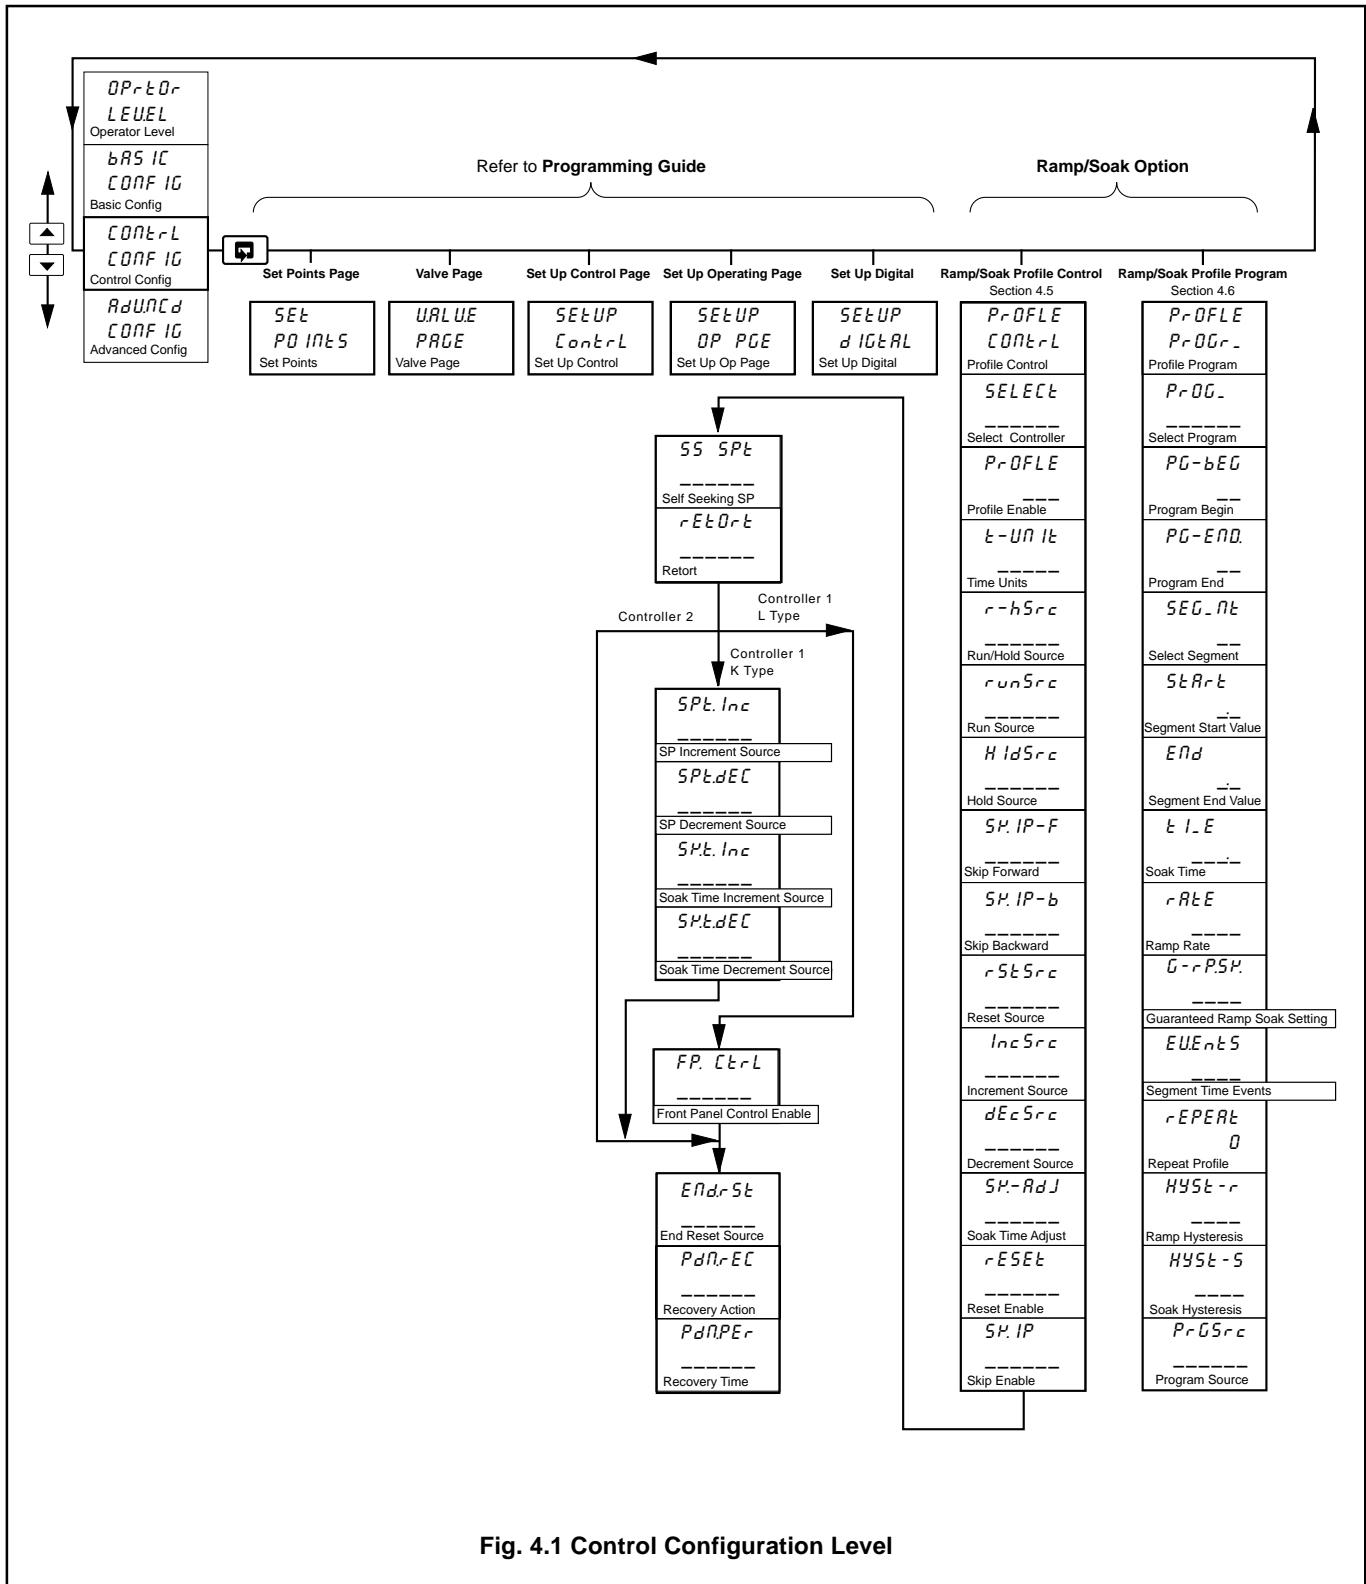

Fig. 4.1 Control Configuration Level
4.1 Control Configuration Level – Fig. 4.1